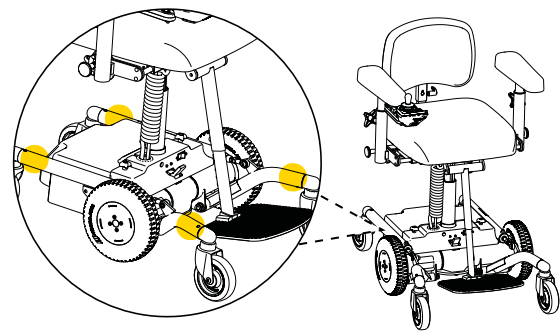

Figure 3.3. Suitable grips when lifting.
- The device should be lifted by two people. There are suitable grips on the front legs and the rear legs of the chassis, on the right and left sides, see Figure 3.3.